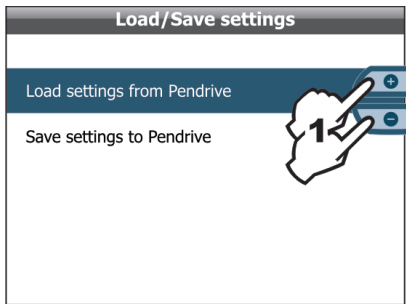

Fig. 73
- 1 Select item **Load settings from Pendrive** (Fig. 73) and press **OK**;